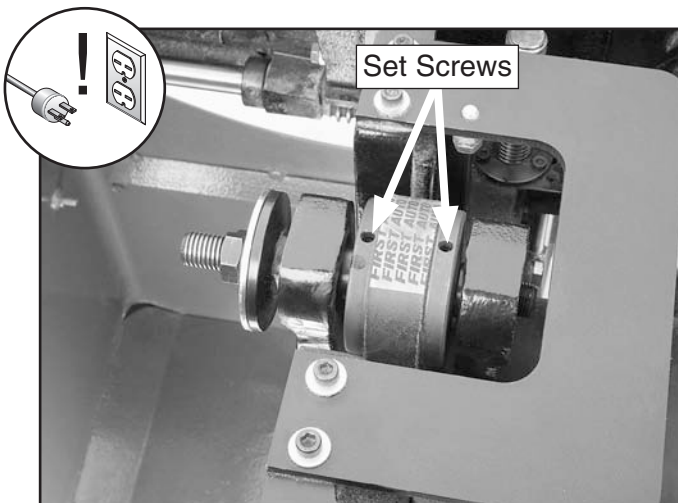

Figure 136. Location of arbor set screws.
12. Loosen the set screws shown in **Figure 136**.
30. Tighten the pulley set screws shown in **Figure 136** on **Page 73**.